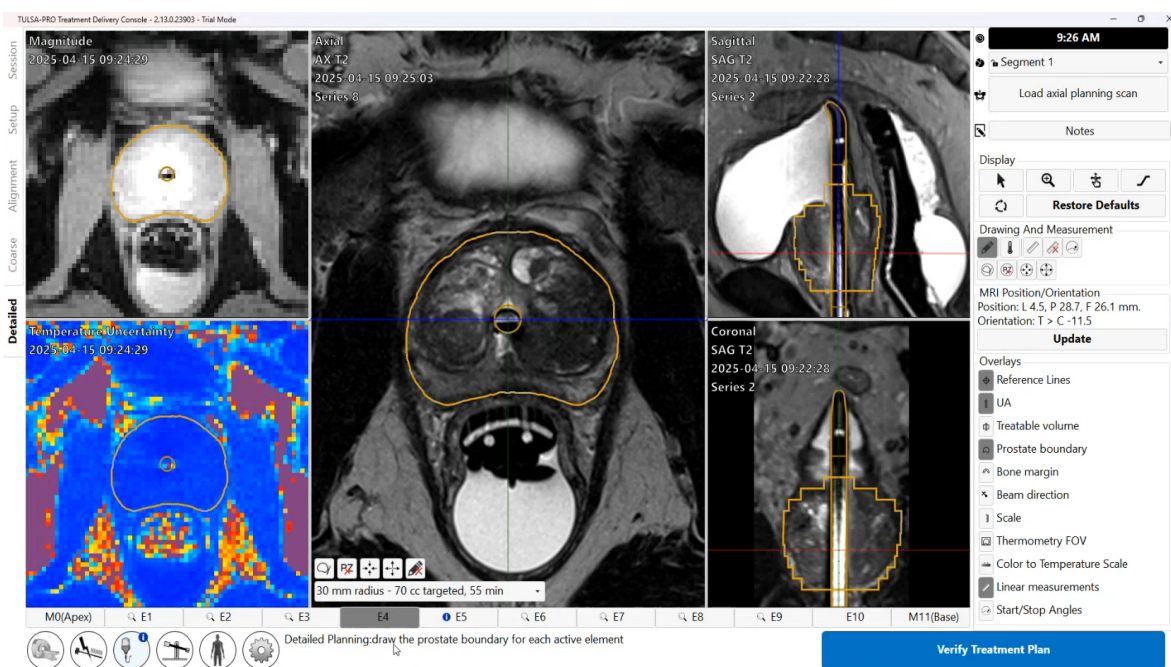

Figure 38: Detailed Planning after drawing boundaries
1. Draw or edit the boundary to outline the tissue to be ablated on each slice based on the corresponding AX T2 and THERM magnitude images (*Figure 38*). Tools to customize the boundary are described in the following *mpMRI Vision*, *Treatment Arc*, *TULSA-AI Volume Reduction (VR)*, and *Contouring Assistant*. You can select individual slices by clicking on the numbered tab at the bottom of the screen or by pressing the left and right arrow keys on the keyboard. Use the sagittal and coronal views of the SAG T2 images to verify the intended ablation zone in three dimensions.